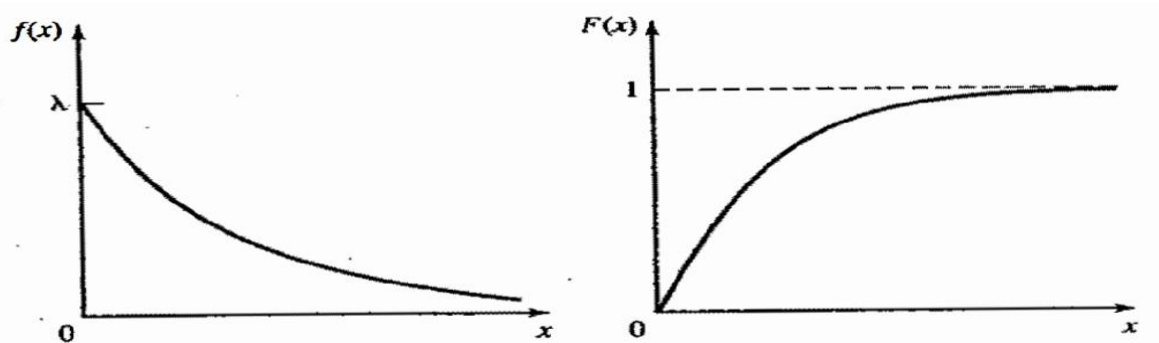

Figure 5.9: Exponential density function and cumulative distribution function
- The density function is shown in Figure 5.9. Figure 5.9 also shows the cdf.